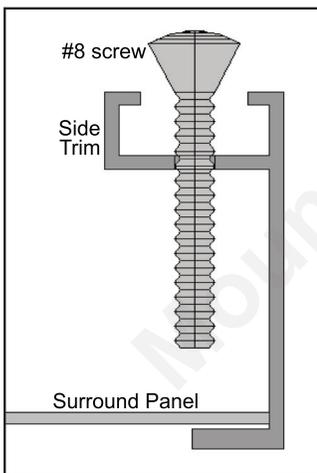

Figure 18: Screw to hold the trim against the surround.
- b) Slide the two (2) attached trim pieces onto the surround panel.
- e) On the side trims there are holes 2" (50 mm) from either end. Using a Phillips screwdriver to place a #8 screw 1 1/4" long in each hole and tighten (refer to Figure 18). This will keep the trim tight against the surround.